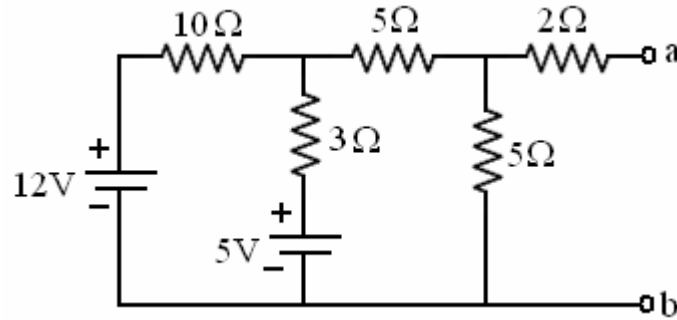

Figure 4
- b) Find the thevenin's equivalent for the below network (shown in Figure 4). [7+8]